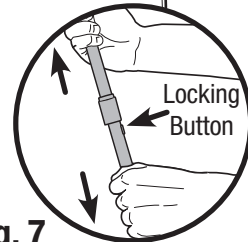

Fig. 7
- Lower the frame one leg pole at a time by pushing the lock buttons and collapsing the telescoping leg poles. (Fig. 7)